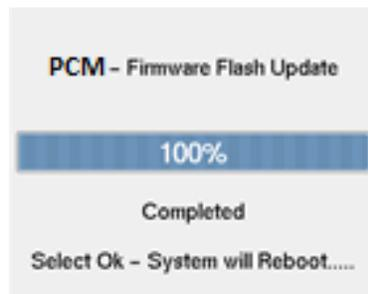

Figure 1.15 PCM Update Progress
18. The unit will display a progression bar during the installation (Figure 1.15).